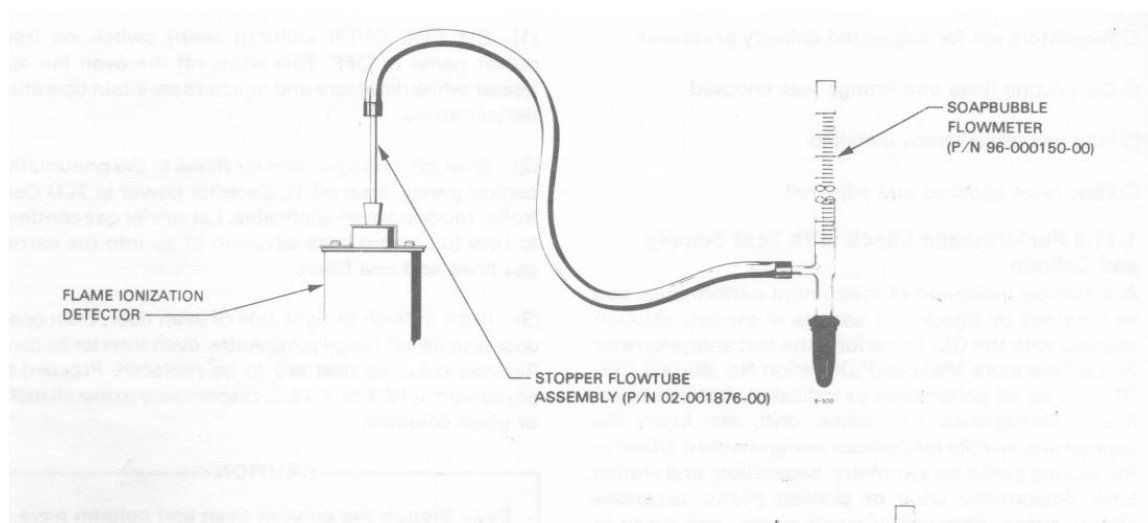

Figure 2. Soap-bubble system.
- (1) Set supply pressure of gas being measure to the pressures listed above. Gas pressures are indicated at the second stage regulator gauge on the supply cylinders. The carrier gas pressure can be also checked on the gauge located in the front panel of the GC.
- (2) Connect soap-bubble flow meter to the selected detector as shown in Figure 2.